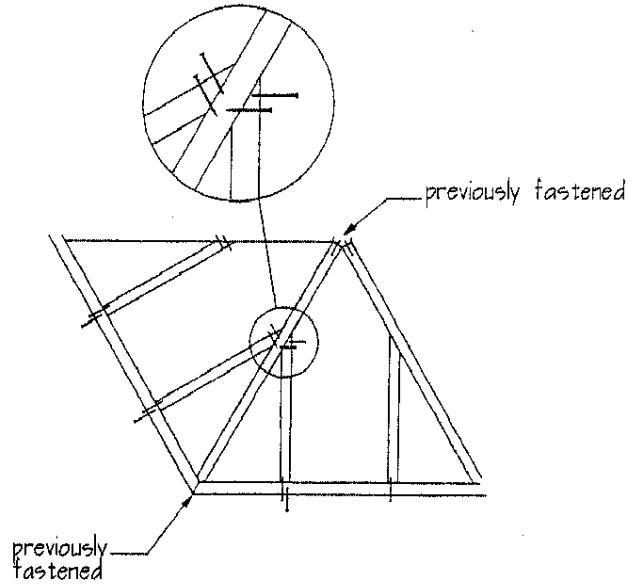

Figure B7
7. Using two 3" screws, fasten the beveled or pointed end of each Short FLOOR Joist to the adjoining Long FLOOR Joist. After the Short FLOOR Joists are attached to the Long FLOOR Joists, using two 3" screws, fasten the Short FLOOR Joists to the Rim Joists. See Figure B7.